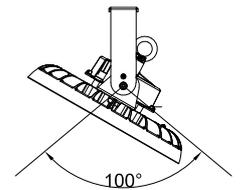

Figure 7
Step4. After installation, connect the wire of the fixture to the mains according to local wiring rules, ensure the connection is stable and make good protection on the connection. By adjusting the brackets screws, users can adjust 50° to the left or right vertically. (Figure 7)